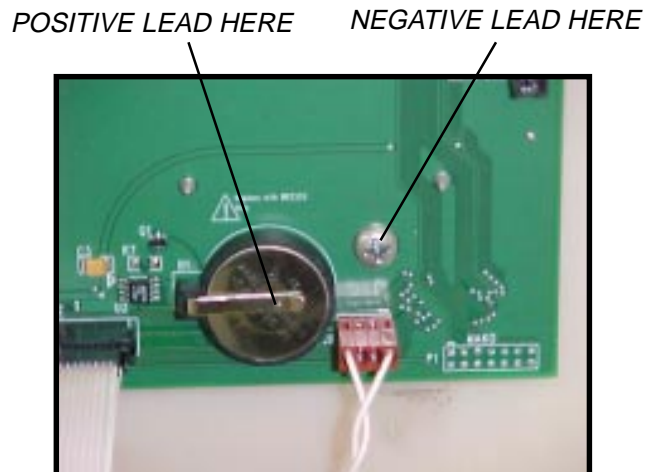

Figure 1-2. Placement of Battery Leads.
3. Place the POSITIVE LEAD of the voltmeter on the battery holder clip. Place the NEGATIVE LEAD of the voltmeter on the screw head nearest the battery holder. See Figure 1-2.
5. Turn on power to the Terminal by placing the power switch in the ON (I) position. Close and lock the Top Enclosure.